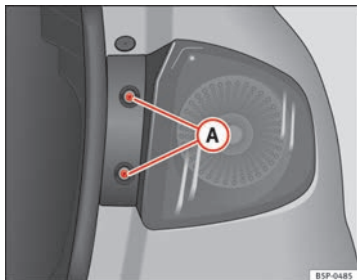

Fig. 190 Side lights and brake lights
- Remove the bolts ⇒ fig. 190 (A).